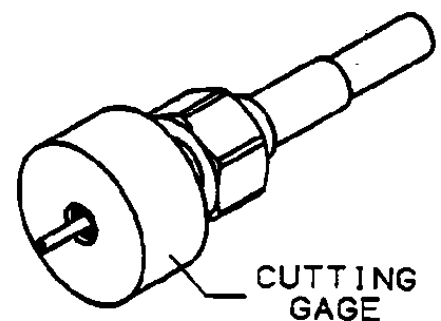
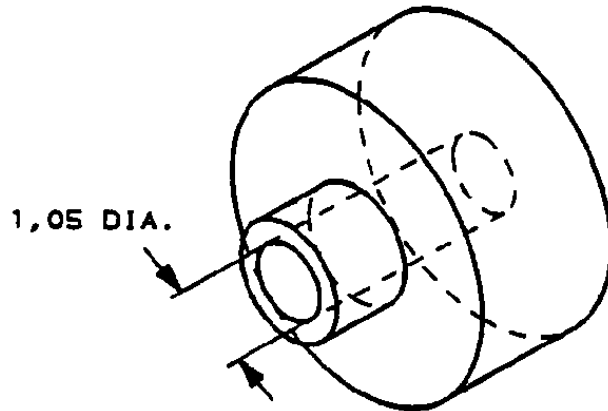

FIGURE 4
FIGURE 5
| 3. Cutting gage | pn. 100279-1 | (see fig. 5) |
4. Position cutting gage (fig. 5) over protruding length "L" and cut down flush with gage. (see fig. 4)